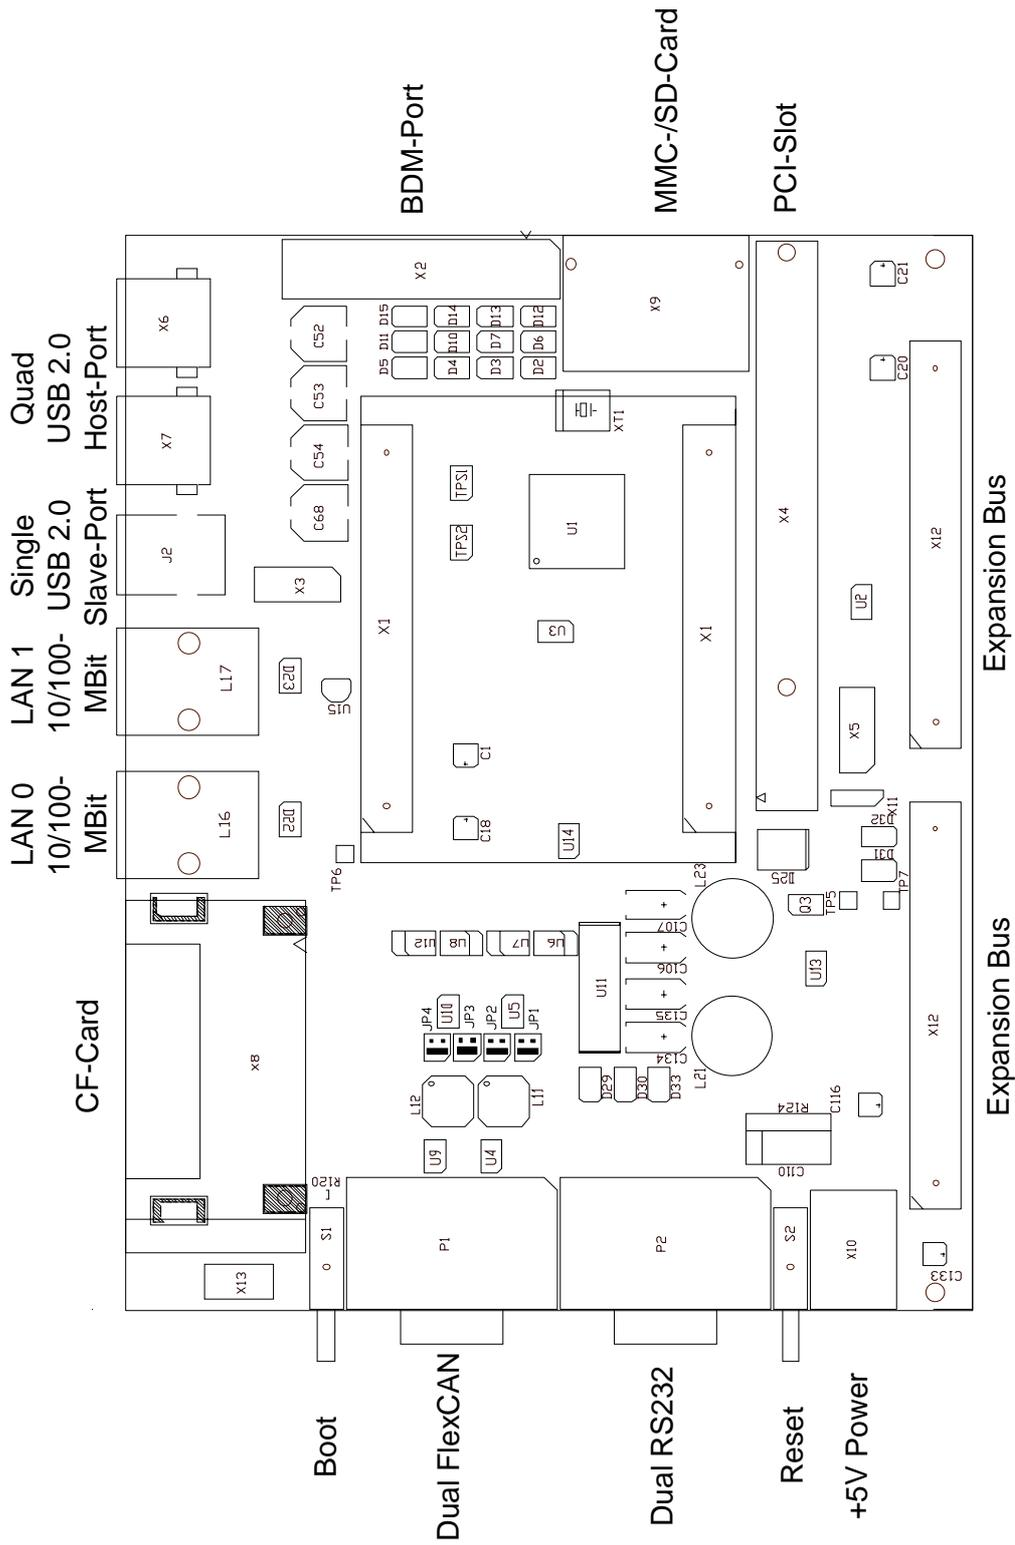

Figure 2: View of Development Board and Suitable Jumper Settings
- If the phyCORE module is not already pre-installed, mount it pins-down onto the Development Board's receptacle footprint (X1) as shown in the *Figure 2* below. Ensure that pin 1 of module matches pin 1 of the receptacle on the Development Board.
- Configure the jumpers on the phyCORE Development Board as indicated in *Figure 2*. This correctly routes the CAN interface signals. *Please see the phyCORE-MCF548x Hardware Manual for further information on jumper settings.*